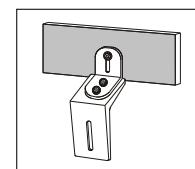

Fig. 6
4. Secure the reflector and bracket in place making sure the alignment LED's stay ON (refer to Fig. 6).